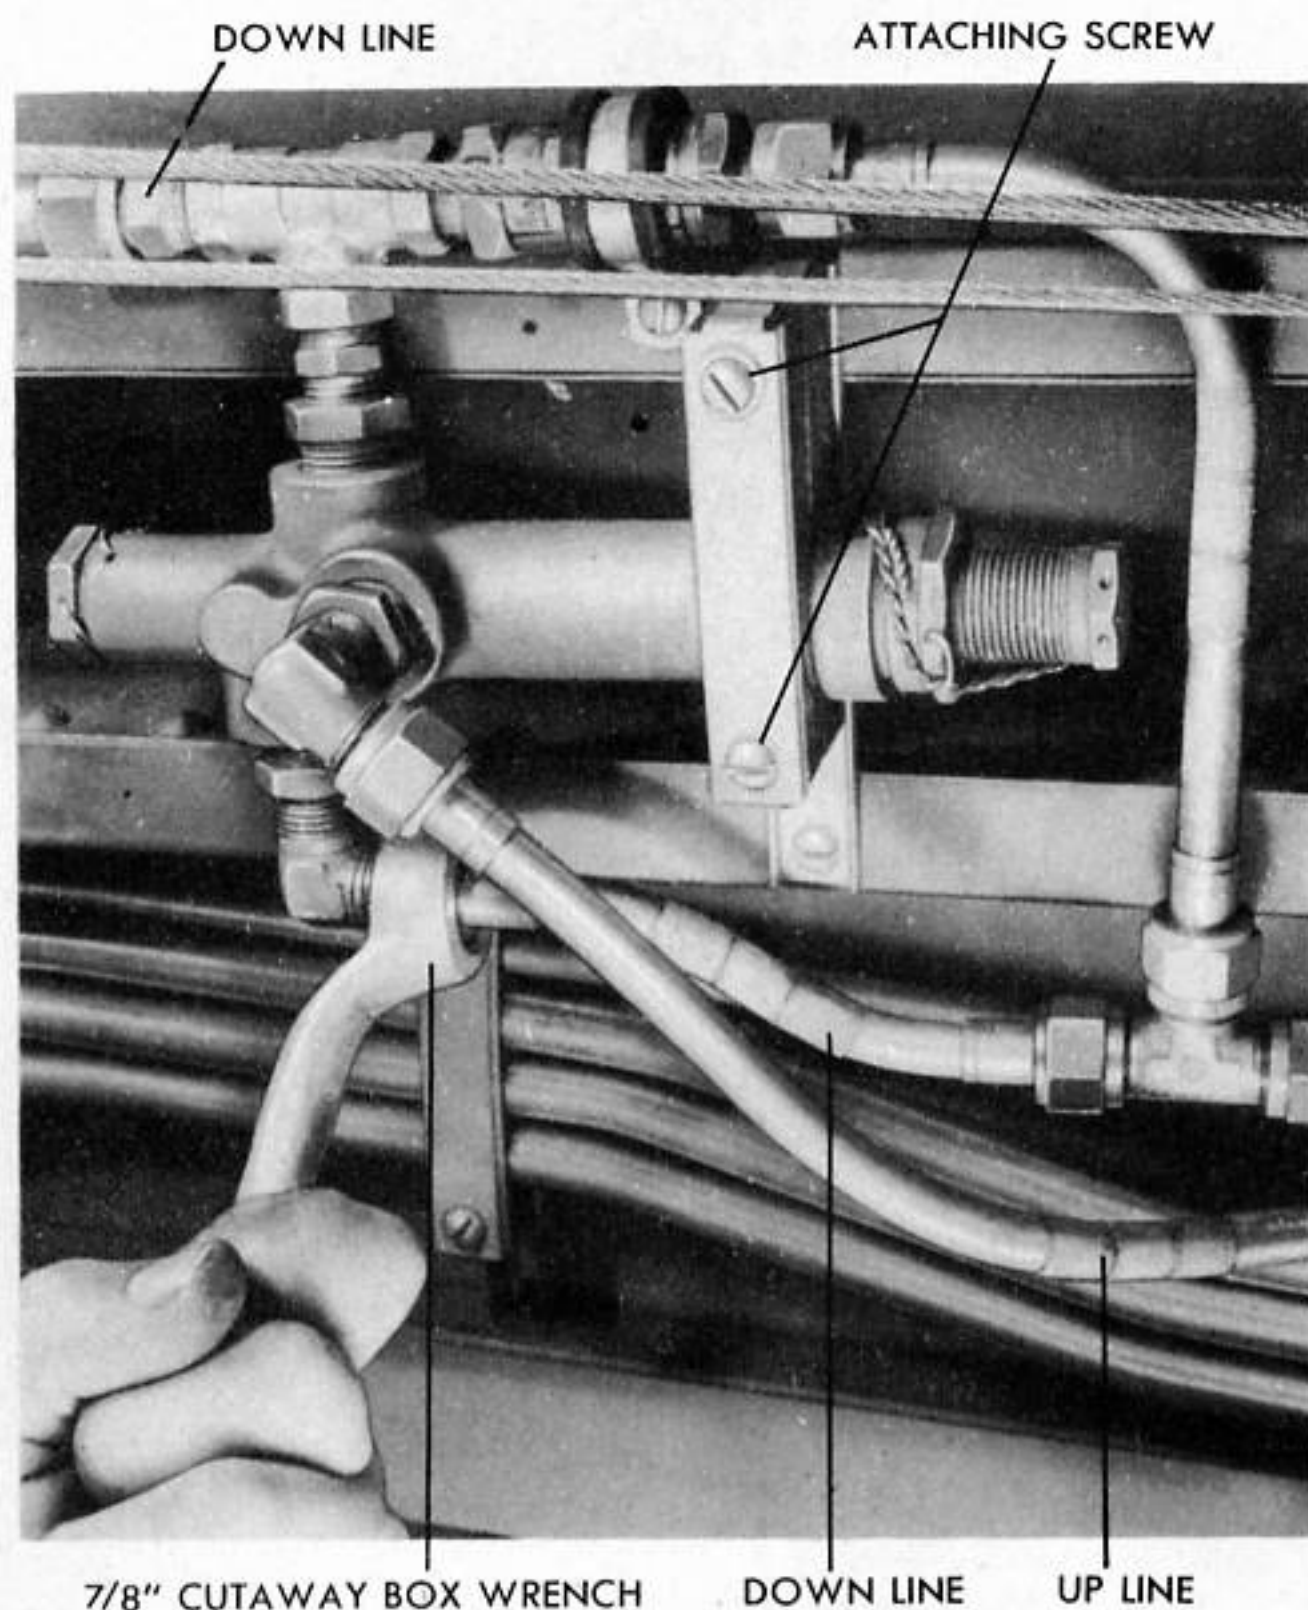

Figure 207 - REMOVING WING FLAP RELIEF VALVE
(17) REMOVAL OF WING FLAP RELIEF VALVE. (See figure 207.)